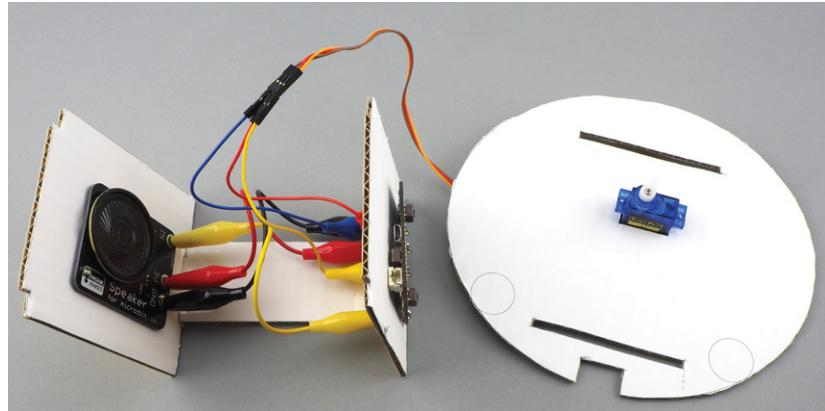

Figure 6-16: Connecting the servomotor
- With the servomotor arm fixed in place at 90 degrees (review the end of Experiment 8 if needed), push the servomotor through the top card (the round face), threading the servomotor's wire through first. Notice that the servomotor's shaft is not in the center of the servomotor but rather toward one end; that end should be at the end of the servomotor cutout that is closest to the center of the top card (see Figure 6-16).